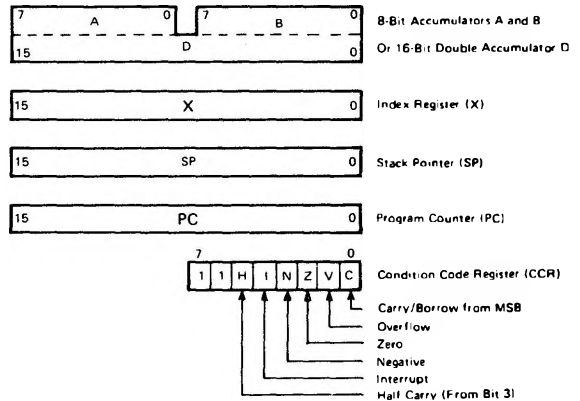

Figure 23 MCU Programming Model
- MPU Programming Model (Figure 23)
The programming model for the HD6801S is shown in Figure 23. The double (D) accumulator is physically the same as the Accumulator A concatenated with the Accumulator B so that any operation using accumulator D will destroy information in A and B.